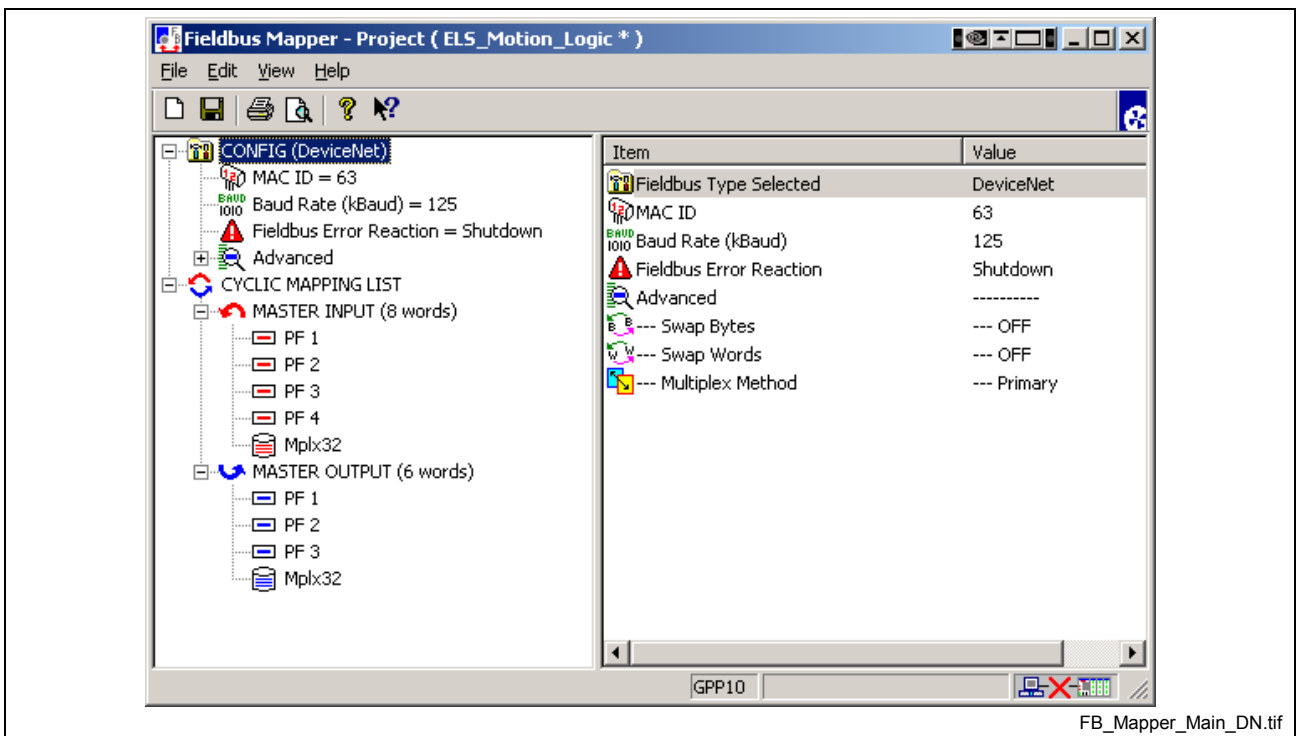

Fig. 7-131: Fieldbus Mapper Main Window (Complete)
3. Click **Open**. The main Fieldbus Mapper window appears, which lists the configuration information. Refer to Fig. 7-131 below.